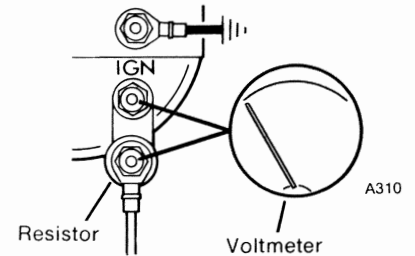

Figure 5 Resistor
2. If the gauge has a resistor, connect a voltmeter across the terminals of the resistor as shown in Figure 5. Start the engine. If the voltmeter shows 10-16 volts, the resistor is okay; if the voltmeter shows 0 volts or 24 volts, replace the resistor.